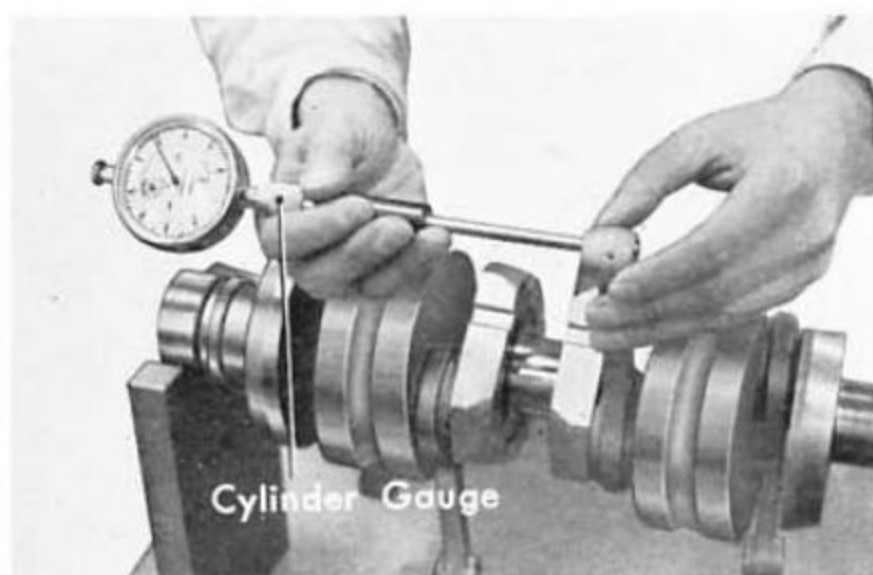

Fig. 1L-8
5. Check the twist and tilt of connecting rod (Fig. 1L-9, 10).